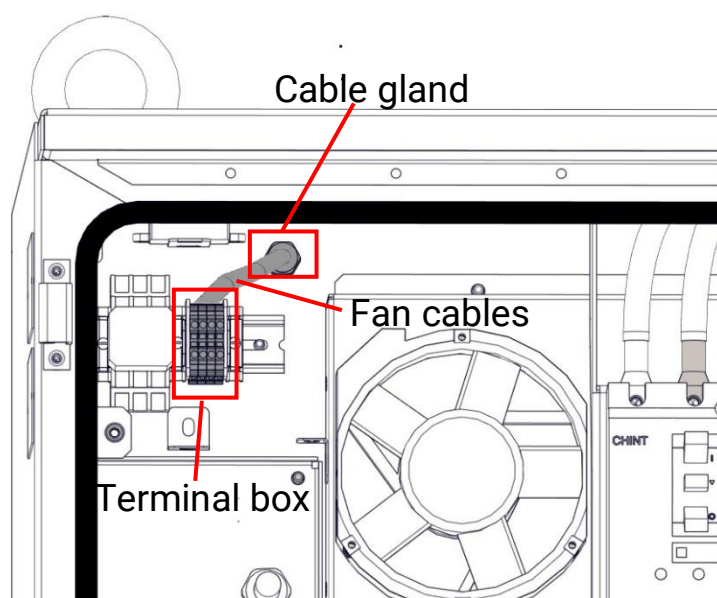

Figure 34 - Disconnect main fan signal and power cables
1. Unscrew the cable gland, shown on the figure 34
2. Disconnect fan signal and power cables from terminal box, shown on the figure 34.